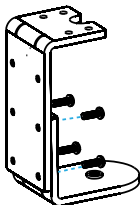

Figure 11
2. Insert the **Screws** (x4) into the **Mid** and **Lower Screw Holes** of the **Desk Clamp**. Use a **Phillips Head Screwdriver** to **Tighten** the **Screws** (x4). (Figure 11)